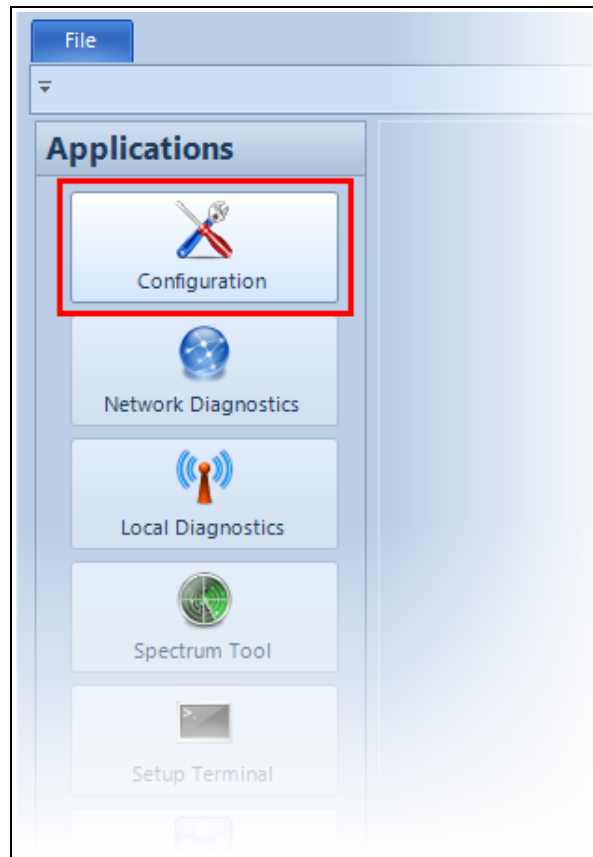

Figure 12: Configuration button
1. In Tool Suite, click **Configuration** in the **Applications** pane. (Figure 12)